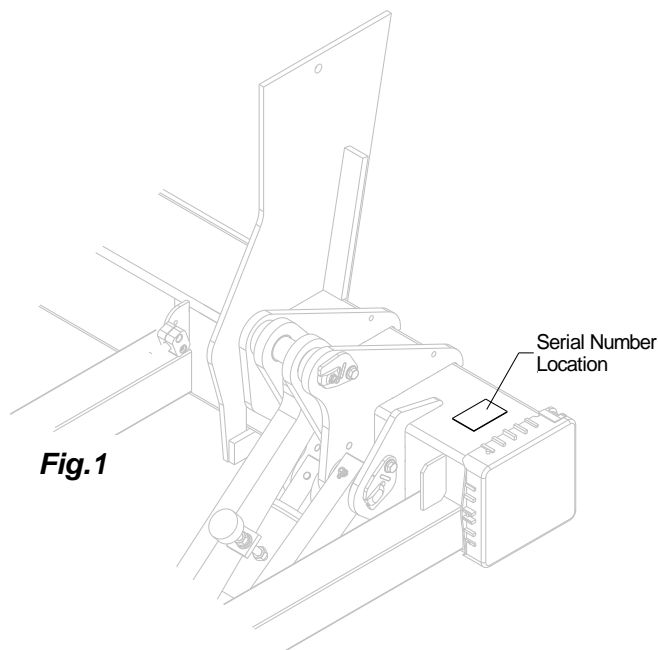

Fig.1
- 1) Refer to the serial number tag on top of the mount tube at curb side as shown in **Fig. 1**.